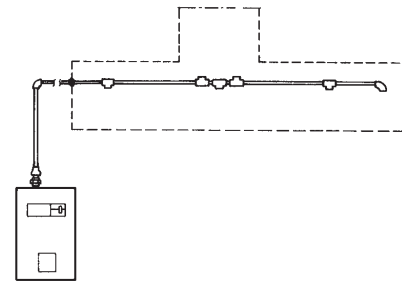

FIGURE 14
2. Based on the piping sketch developed in the "System Design" section of this manual, install the supply line and position the tees at points where branch lines must be installed. See Figure 14.